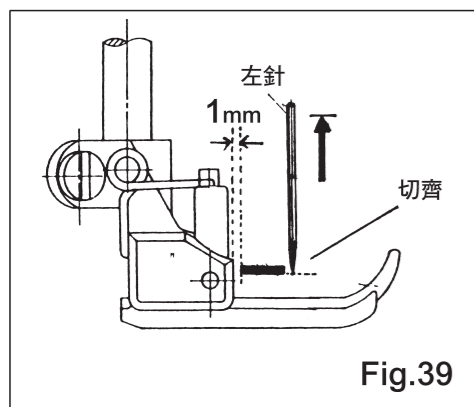
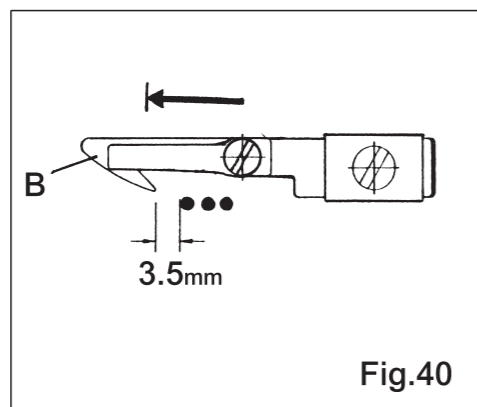

Fig.39
Fig.40
1. The height of Top Wiper (A)—
When the Wiper (B) swings to the bottom in level, the bottom of Wiper align with the tip of left needle which is the height of Top Wiper. (Fig.39)
2. The front & rear position of Wiper (B)—
When the Wiper (B) passed the Presser Foot, the clearance between the Wiper and Presser Foot is 1mm. (Fig.39)
3. The right & left position of Wiper (B)—
When the Wiper (B) swings to the left dead point, the clearance between the hook tip of Wiper and left needle is 3.5mm. (Fig.40)